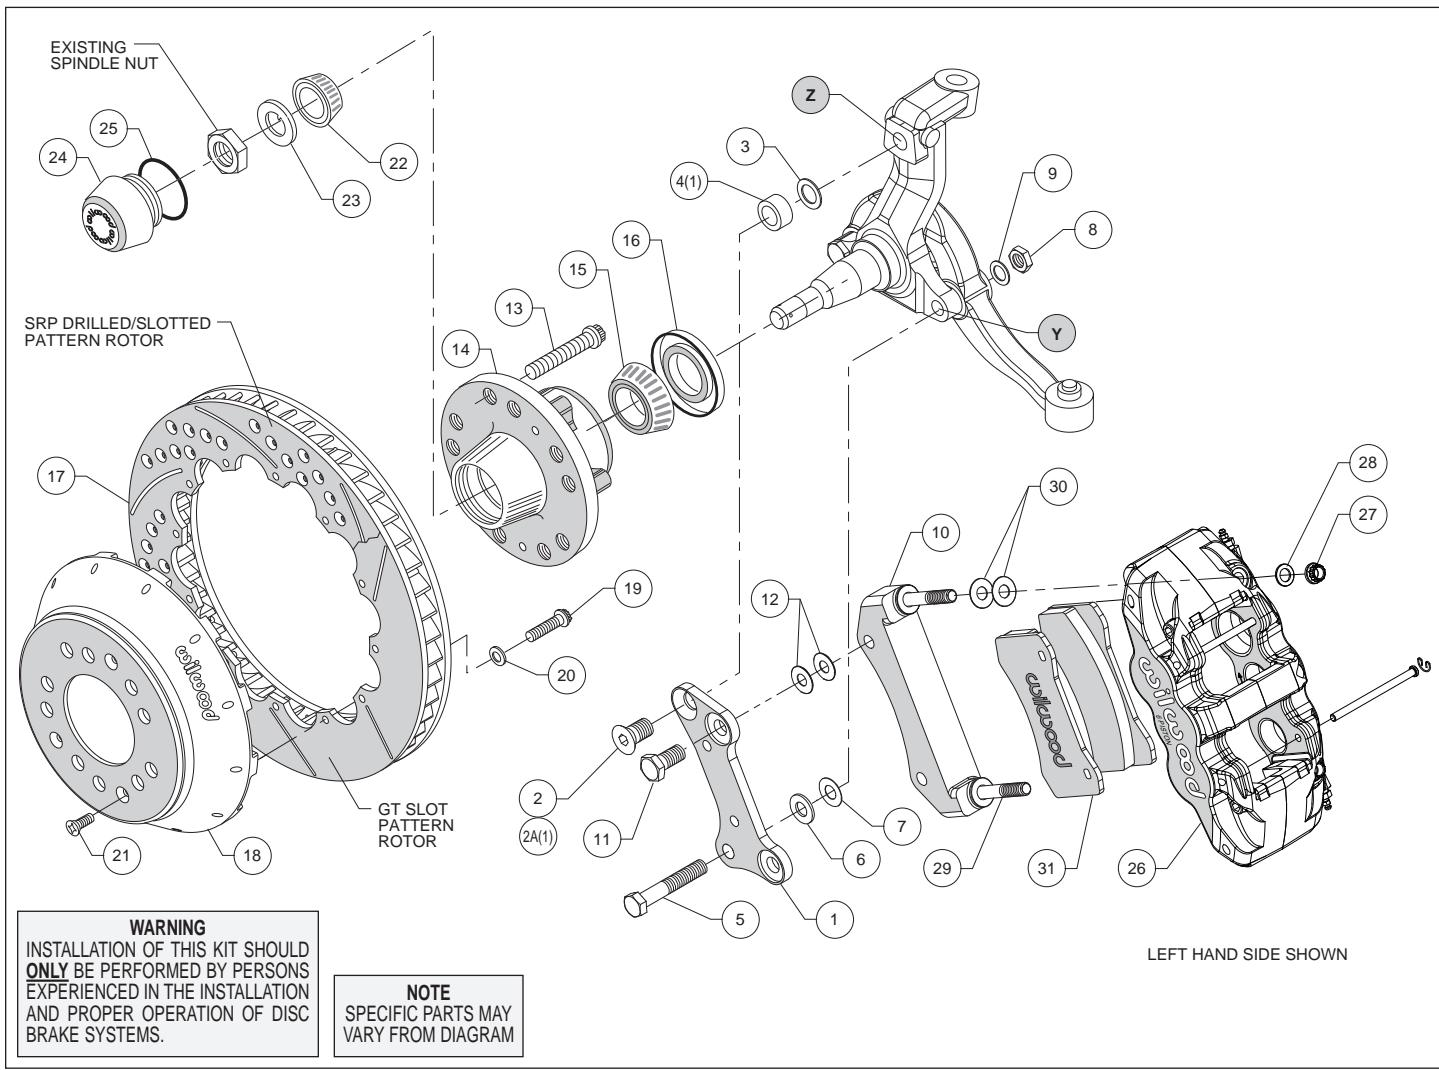
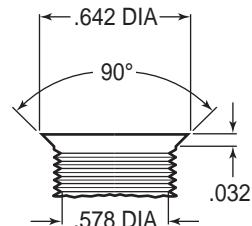
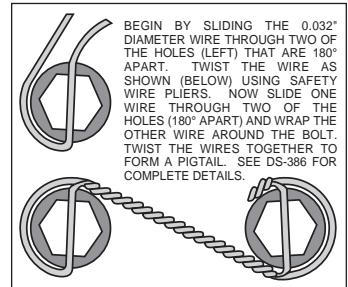

Figure 1. Typical Installation Configuration
Figure 3. Drill and Tap Detail
Figure 4. Safety Wire Diagram
Assembly Instructions (numbers in parenthesis refer to the parts list, and Figure 1 on the preceding pages):
- NOTE:** 1964-66 spindles may require the following modifications (reference Figures 1 and 3): Top anchor pin hole (Z) must be drilled and tapped to the dimensions as outlined in Figure 3. Bottom rear steering arm bolt hole (Y) in the spindle and steering arm must be enlarged to .50" by drilling.
- Install wheel studs (13) into the hub (14), Photo 1. Torque to 77 ft-lb. **NOTE:** There are two five lug patterns in the hub (5 x 4.50 and 5 x 4.75). Ensure the correct hub stud pattern is being used to fit the wheel application.
- Pack the large inner bearing cone (15) with high temperature disc brake bearing grease (available from your local auto parts store) and install into the backside of the hub (14), Photo 2.
- Install the grease seal (16) by pressing into the backside of the hub (14), flush with the end of the hub, Photo 2.
- Orient the rotor (17) and the hat (18) as shown in Figure 1 and Photo 3. Attach rotor to hat using bolts (19) and washers (20). Using an alternating sequence, apply red *Loctite*® 271 to the threads, and torque to 155 in-lbs. For an added measure of security, the bolts may be safety wired using standard 0.032 inch diameter stainless steel safety wire as shown in Figure 4. Please refer to Wilwood's data sheet DS-386 (available at www.wilwood.com/Pdf/DataSheets/ds386.pdf) for complete safety wire installation instructions.
- Attach caliper mounting bracket (1) to spindle face using lower bolt (5), and a .090" thick spacer (6) positioned between the bracket and the spindle face, as shown in Figure 1. Secure bolt on the backside of the steering arm with nut (8) and washer (9). Finger tighten. Install upper bolt (2) (for drum spindle) or bolt (2A) with spacer (4) between bracket and spindle (for disc brake spindle). Ensure that the flanged heads of the clinch nuts in the bracket are facing outboard. Temporarily tighten the mounting bolts and install the new hub (14) and rotor assembly (17/18). Check that the bracket is aligned parallel to the rotor, Photo 4. If
not, adjust by adding shim washers (3 and/or 7) between spacers (4 and/or 6) and the bracket, Figure 1. Once the bracket alignment is correct, remove the bolts one at a time, apply red *Loctite® 271* to bolt threads, and torque upper bolt (2 or 2A) to 120 ft-lb. and lower nut (8) to 77 ft-lb.
•The radial mount caliper bracket (10) should initially be installed with clean dry threads on the mounting bolts. Orient bracket as shown in Figure 1, and install using bolts (11). Initially place two shims (12) on each bolt between the two brackets. Temporarily tighten the mounting bolts. Later, after the caliper alignment has been checked, the mount bolts will be secured using red *Loctite® 271*.
•Pack the small outer bearing cone (22) with high temperature disc brake bearing grease and install into hub (14). Final install the hub assembly onto the spindle. Secure using spindle washer (23), and OEM spindle nut, Photo 5. Adjust bearings per OEM specifications. Install new cotter pin (not included).
•Screw dust cap (24) into hub (14), Photo 6. Friction created by the o-ring (25) on the dust cap keeps it from unscrewing.
•Final install the hat/rotor (17/18) onto the hub (14) taking care to align the small countersunk holes in the hat with the small threaded holes in the hub. **NOTE:** The hat must fit flush against the hub face or excessive rotor run out may result. Install three flat head screws (21) through the small holes in the hat (18), Photo 7, and torque to 85 **in-lb**.
•**NOTE:** This kit contains distinct right and left hand calipers that must be mounted in a specific direction, as described below. Lubricate the caliper mounting studs (29) with lightweight oil. Initially place two .030" thick shims (30), on each stud between the caliper and the bracket, as shown in Figure 1 and Photo 8. Mount the caliper (26) onto the bracket (10) using lock nuts (27) and washers (28), Figure 1. Ensure that the caliper is mounted so the largest pistons are at the rotor exit end of the caliper, in relation to the direction of rotor rotation. Temporarily tighten the lock nuts and view the rotor through the top opening of the caliper. The rotor should be centered in the caliper, Photo 9. If not, adjust by adding or subtracting shims (12) between the flat bracket and the radial mount bracket. Always use the same amount of shims on each of the two mounting bolts. Once the caliper alignment is correct, remove the radial mount bracket bolts one at a time, apply red *Loctite® 271* to the threads, and torque to 77 ft-lb.
- Remove the two pad retaining pins from the caliper (26) by carefully popping out the pin retaining clips and sliding out the pins. Insert the brake pads (31) into the caliper from the bottom, Figure 1, Photo 10. With the friction material facing the rotor, secure the brake pads in place with the pad retaining pins and clips, Photo 11. Reinstall the caliper onto the caliper mounting bracket and temporarily tighten the lock nuts. Check that the top of the brake pad is flush with the outside diameter of the rotor, Photo 12. If not, adjust by adding or subtracting shims (30) between the caliper and the bracket. After the caliper pad height is set, torque the caliper lock nuts (27) to 47 ft-lb.